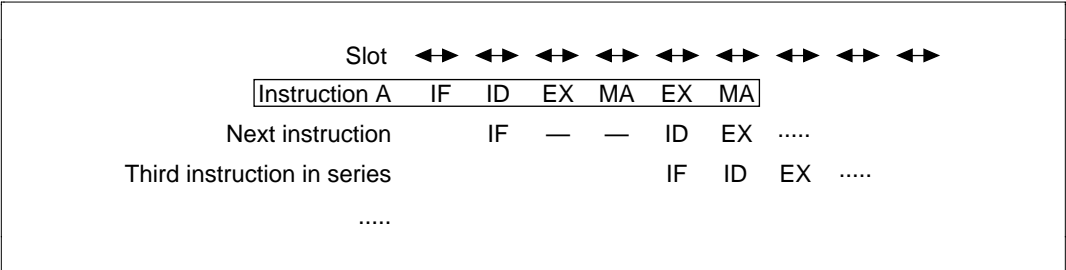

Figure 10-35 Memory Logic Operation Instruction Pipeline
The pipeline has six stages: IF, ID, EX, MA, EX, and MA (figure 10-35). The ID of the next instruction stalls for 2 slots. The MAs of these instructions contend with IF (see 10.2.1 Contention between Instruction Fetch (IF) and Memory Access (MA)).
(4) SR Update Memory Logical Calculation Instructions